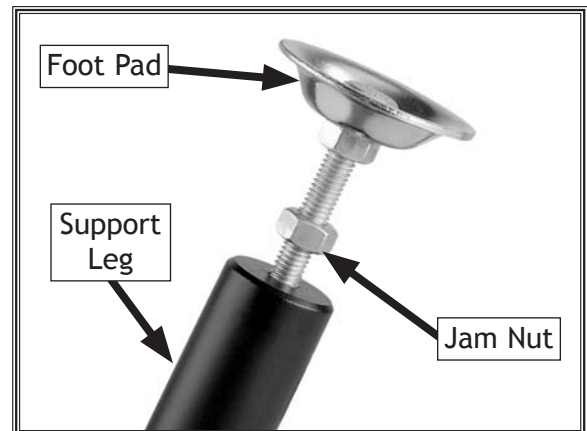

Figure 5. Foot pad bolt threaded into the support leg.
3. Thread the foot pad assembly into the bottom of the support leg, as shown in Figure 5. For now, do not tighten the jam nut up to the leg so that you can adjust the height of the leg in a later step.